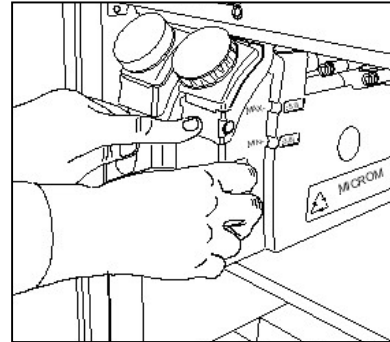

Fig. 29
- To remove the reagent bottle, press the button on the front side of the bottle (fig. 29). In doing so, pull the bottle towards the front (fig. 30).